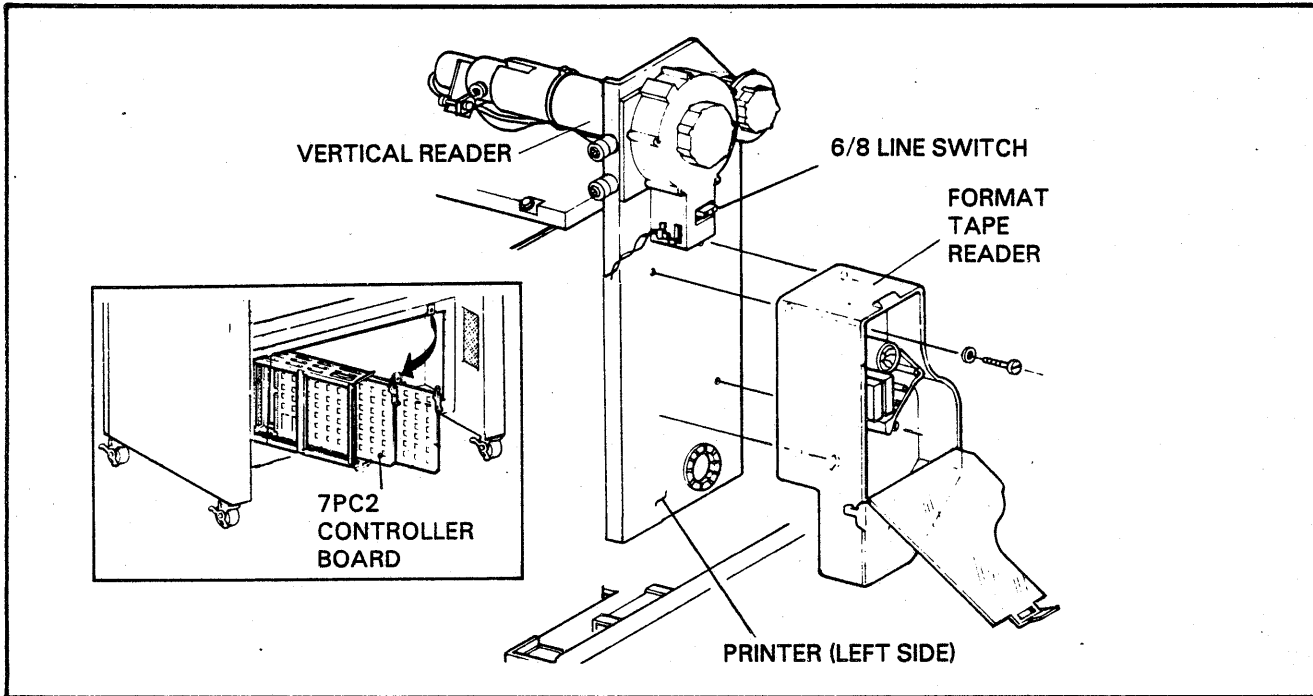

FIGURE 6-6. FORMAT TAPE READER ASSEMBLY REPLACEMENT
6. Open the reader cover. Remove the four corner mounting screws at the back inside surface of the reader (refer to Figure 6-6). Remove the reader assembly.